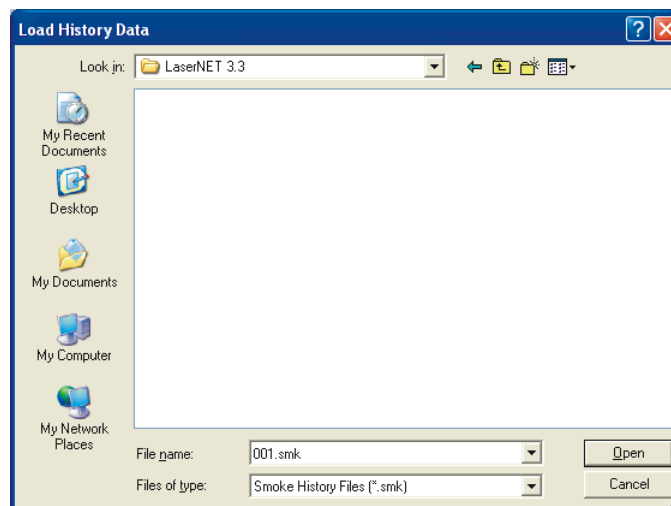

Figure 7-15. Load History Data Window
1. Select either the Load from Disk button or **Options>Load** from the menu. The Load History Data window opens, as shown in Figure 7-15.